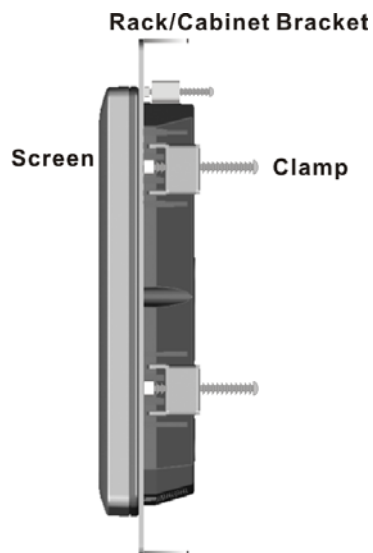

Figure 2-17: Secure the Rack/Cabinet Bracket
Step 3: Tighten the screws that pass through the rack mounting clamps until the plastic caps at the front of all the screws are firmly secured to the bracket (Figure 2-17).